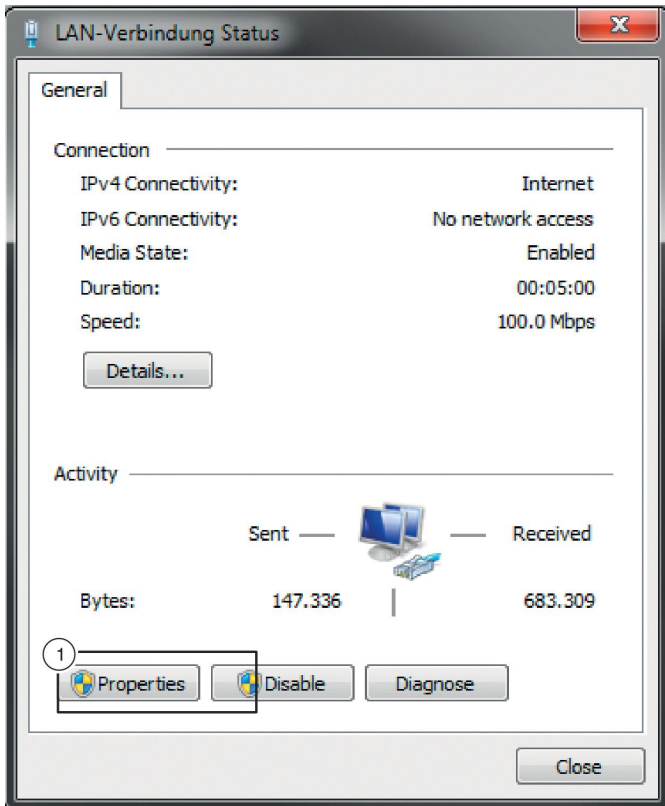

Fig. 39: LAN connection status
5. ▶ Select 'Properties' ( Fig. 39 /1).